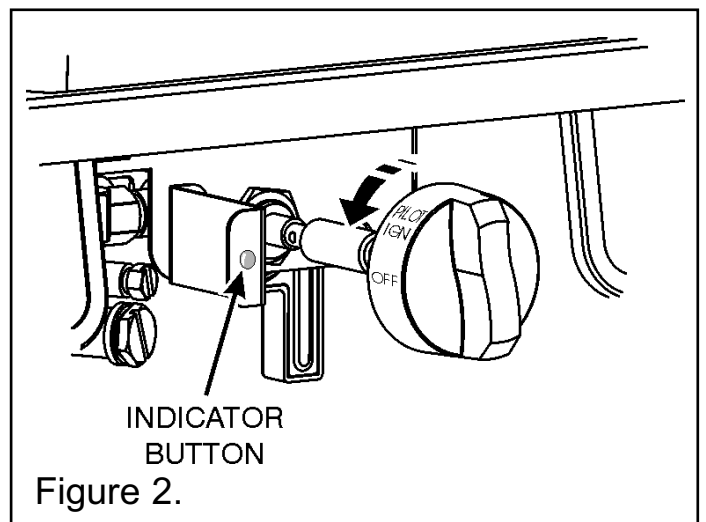

Figure 2.
– Depress the control knob and rotate it SLOWLY anticlockwise to the pilot ignition position (See figure 2). A 'click' will be heard as the integral piezo operates. A flame should appear at the pilot. The pilot can be seen by looking through the gap in the fuel effect (See figure 3). Keep the control knob depressed and hold the pilot ignition position for five seconds. When the control knob is released the pilot flame should remain lit. If a flame does not appear at the pilot then turn the control knob clockwise to the 'OFF' position and repeat the above.